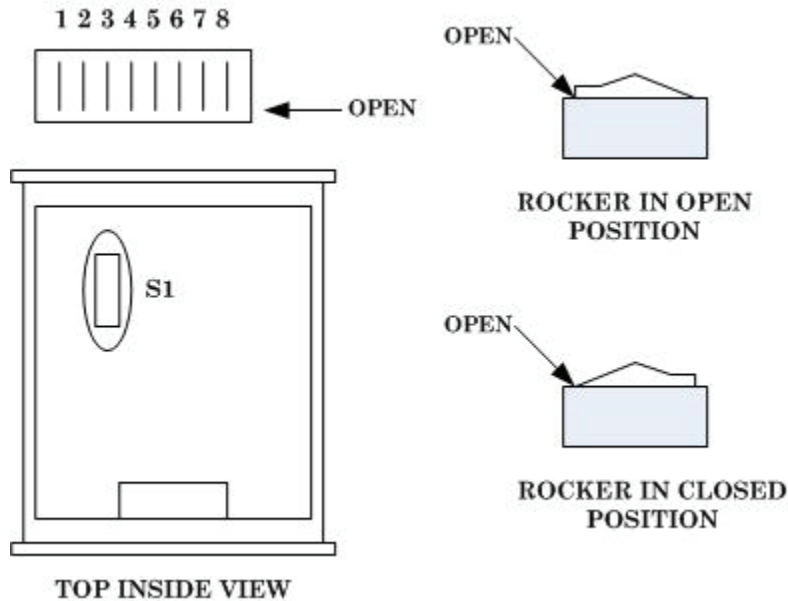

Figure 2. Boonton, Model 9200B switch S1 detail.
- (1) Set calibrator to standby.
- (2) Set internal switch S1 bit 2 in the open position (fig. 2).
- (4) Wait for zeroing process to complete. If the zero indication is not less than ± 50 counts, repeat (3) (f) above until this is achieved.
- (5) Adjust calibrator controls for an output of 0.7 V at 10 kHz.
- (6) Perform (a) through (e) below with the TI keys:
- (7) TI shall indicate approximately 5000.
- (8) Set internal switch S1 bit 2 in the closed position (fig. 2).
- (9) Set calibrator to standby.
- (10) Set internal switch S1 bit 2 in the open position (fig. 2).
- (11) Perform (a) through (f) below with the TI keys:
- (12) Wait for zeroing process to complete. If the zero indication is not less than ± 50 counts, repeat (11) (f) above until this is achieved.
- (13) Adjust calibrator controls for an output of 2.1 V at 10 kHz.
- (14) Perform (a) through (e) below with the TI keys:
- (15) TI shall indicate approximately 5000.
- (16) Set internal switch S1 bit 2 in the closed position (fig. 2).
- (17) Set calibrator to standby.
- (18) Set internal switch S1 bit 2 in the open position (fig. 2).
- (19) Perform (a) through (f) below with the TI keys:
(23) TI shall indicate approximately 5000.
(24) Set internal switch S1 bit 2 in the closed position (fig. 2).
(25) Set calibrator to standby.
(26) Set internal switch S1 bit 2 in the open position (fig. 2).
(27) Perform (a) through (f) below with the TI keys:
(31) TI shall indicate approximately 5000.
(32) Set internal switch S1 bit 2 in the closed position (fig. 2).
(33) Set calibrator to standby.
(34) Set internal switch S1 bit 2 in the open position (fig. 2).
- (35) Perform (a) through (f) below with the TI keys:
- (36) Wait for zeroing process to complete. If the zero indication is not less than ± 50 counts, repeat (35) (f) above until this is achieved.
- (37) Adjust calibrator controls for an output of 100 mV at 1 MHz.